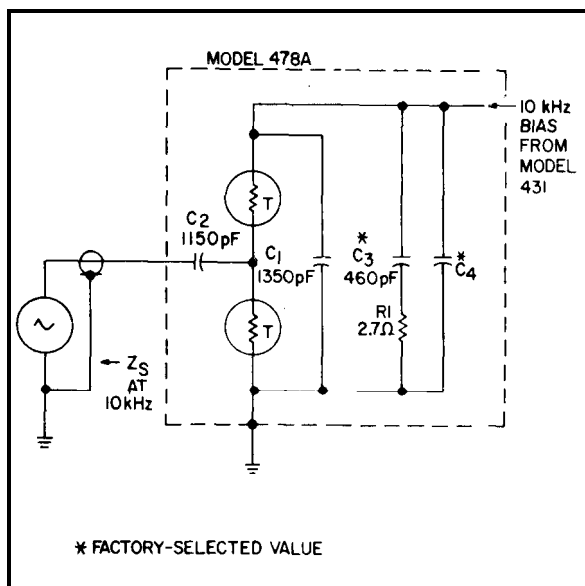

Figure 4. Source Impedance Shunting One RF Thermistor Mount
27. With the Model 478A mount connected to the RF system, the source impedance shunts one of the RF thermistors (see Figure 4); when the Model 478A mount is disconnected, the source impedance is removed. Unless source impedance is high, this variation in impedance affects the RF bridge 10-kHz feedback loop in the power meter, and the zero-level setting obtained with the source disconnected is no longer zero for the measurement. This error can be eliminated by terminating the mount in an impedance which approximately matches the generator impedance at 10 kHz; the termination should be connected while the mount is disconnected (see Paragraph 26) from the source. For example, if the impedance presented by the RF system at 10 kHz is low (1K ohm or less) terminate the thermistor mount in a 50-ohm resistor or a short. On the other hand, if the impedance of the RF system at 10 kHz is high (100 K ohms or more) leave the thermistor mount unterminated during zero-set.